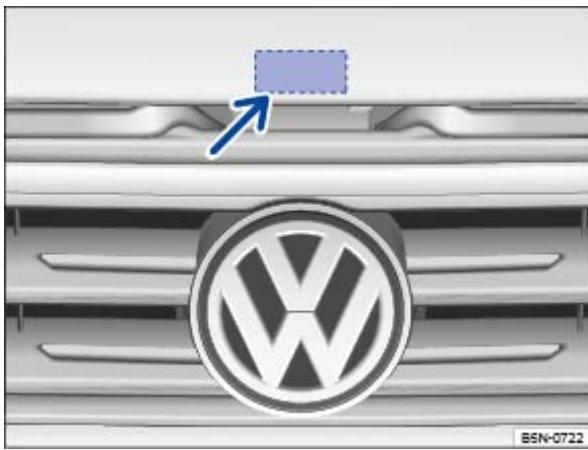

Fig. 177 Above the radiator grille: Outside engine hood release.
- Push the outside hood release lever \Rightarrow Fig. 177 (arrow) and lift the hood all the way up. A gas-pressure strut will hold the hood up.